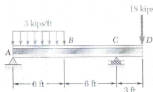

Figure. 2
2. Express the internal shear and moment in terms of x and then draw the shear and moment diagrams for the overhanging beam shown in Figure. 2. Consider roller support at C. (25)